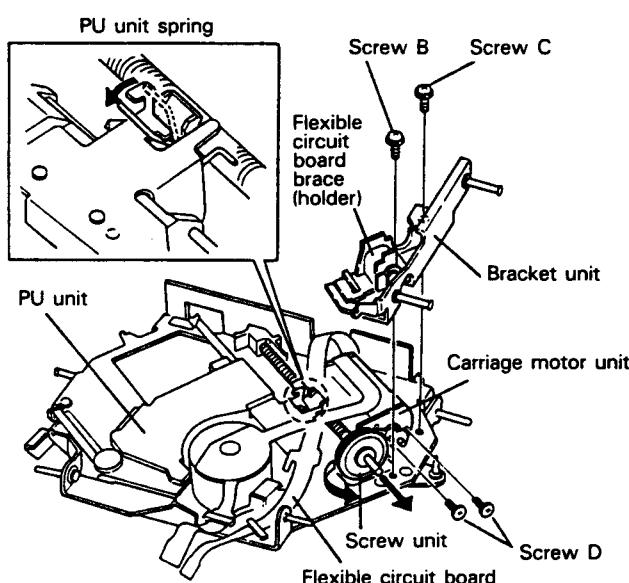

Fig. 4
3. Cock the PU unit spring as shown in Fig. 4 and then move the PU unit to its outermost position.
1. Cock the PU unit spring as shown in Fig. 4. Move the PU unit to the center of the shaft for easy removal.
2. Cock the PU unit spring as shown in Fig. 4 and move the PU unit to its outermost position.